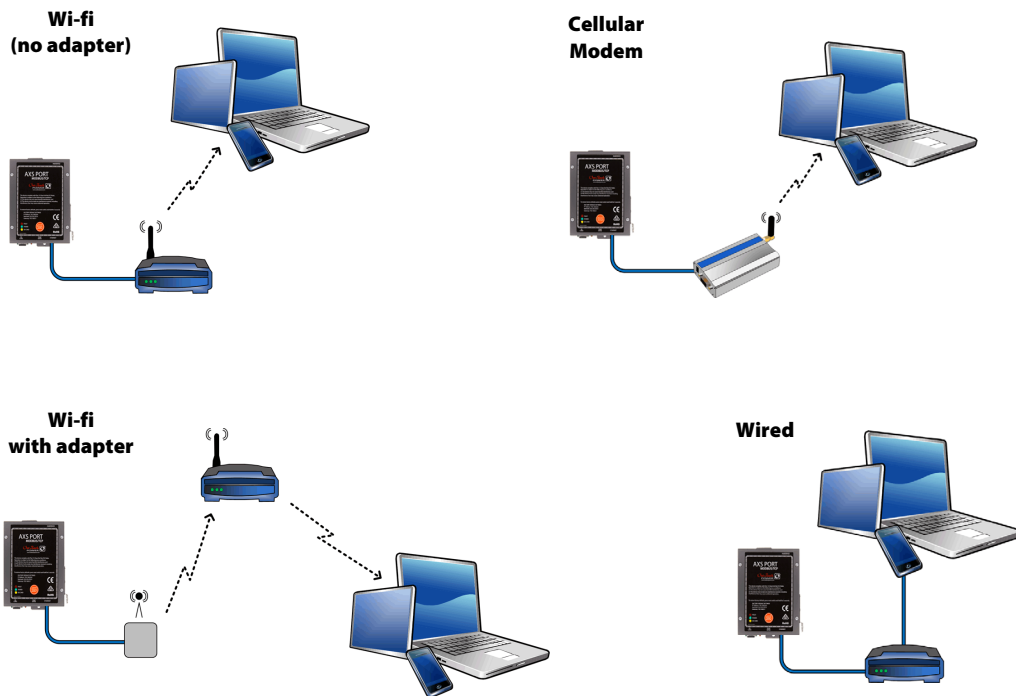

Figure 5 Networking
- **Ethernet Link LED:** Illuminates when the AXS Port has established an Ethernet link with a network or with the Internet. See Figure 5.
- **Power LED:** Illuminates when the AXS Port is powered up. Power is supplied by an OutBack device. See Figure 5.